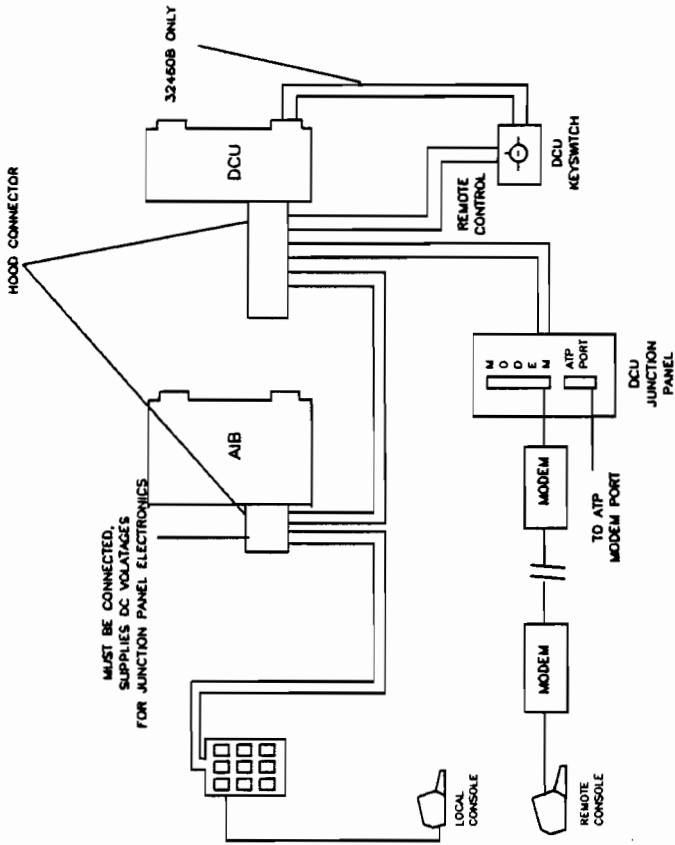

Figure 5-2. Remote Connection
- a. Verify that an originate/answer modem (HP 35141A or equivalent) is connected to the local console. Refer to Figure 5-2 for remote hookup and Table 5-2 for modem switch and operating conditions.